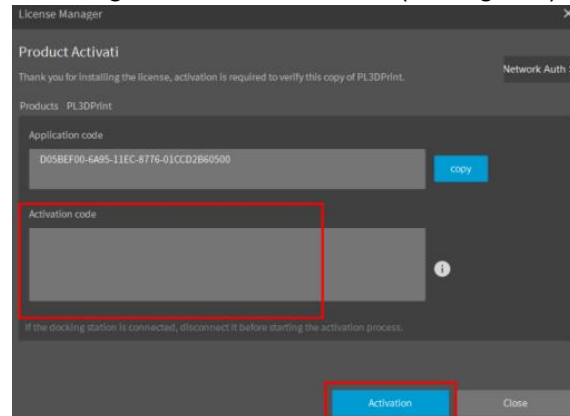

fig. A-2 Input Activation Code
- Enter the activation code in the input field after finishing software installation (see fig.A-2).